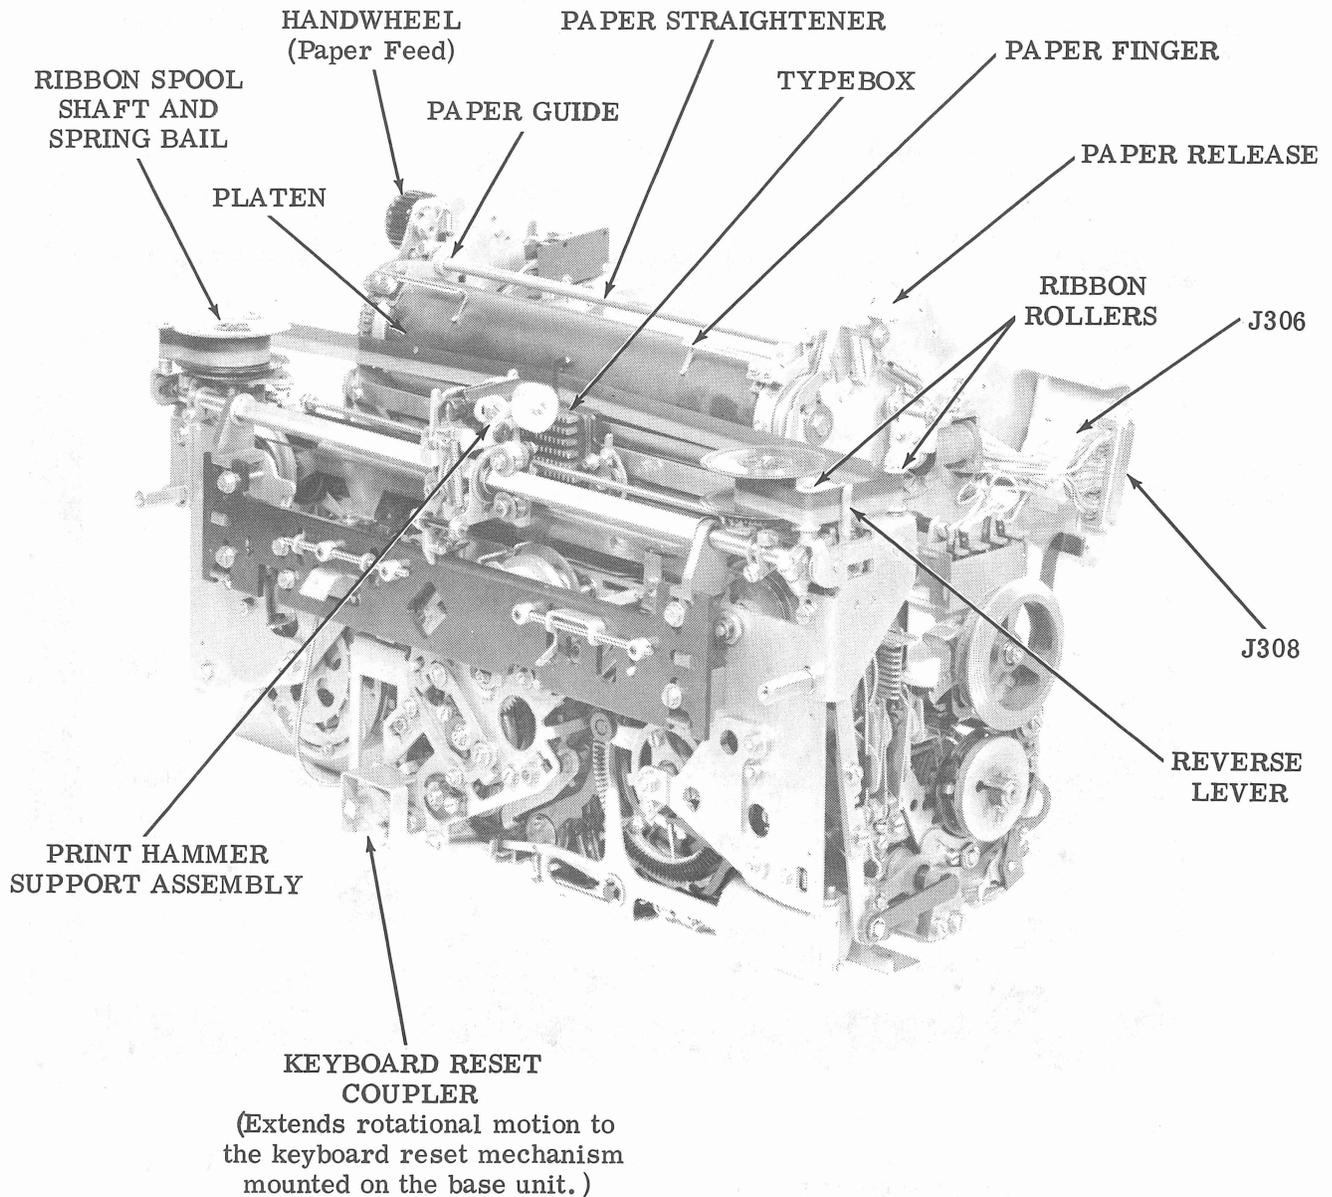

Figure 5 - 37 Typing Unit
2.07 Unpack the typing unit (Figure 5) from its carton and remove all packing material. The typing unit may be lifted by grasping the right side of the front plate and the rear curve under the left side plate. **DO NOT LIFT ANY OTHER WAY.** Check the feed pawls and vertical positioning mechanism (on side of unit) for packing details. Remove the tie from the print hammer carriage, if present. Check that the 8-row typebox is mounted on the typebox carriage.
4.01 Locate the selector clutch on the right end of the typing unit main shaft, and locate the keyboard reset coupler (Figure 5) at the lower center front. Facing the right end of the typing unit, rotate the selector clutch drum
4.02 Viewing the keyboard reset mechanism from the right side of the keyboard, rotate the mechanical reset shaft in a clockwise direction until the open slots in the plastic universal joint member are vertical to receive the lugs on the typing unit (Figures 5 and 6) keyboard reset coupler.
4.13 To route the new teletypewriter ribbon, straighten the spring bail and lift the spool off the shaft. Remove the packaging, and reel out enough ribbon to reach the empty spool and for three turns on the spool. Refer to Figures 5 and 9 and perform the following routing procedure.